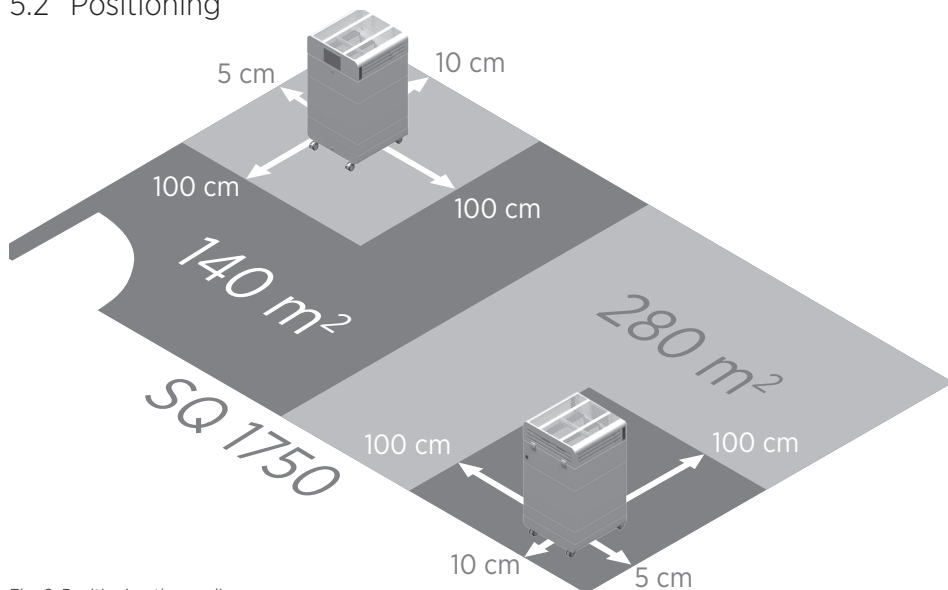

Fig. 6: Positioning the appliance
- Observe the optimal distance to walls and objects according to the information in Fig. 6.